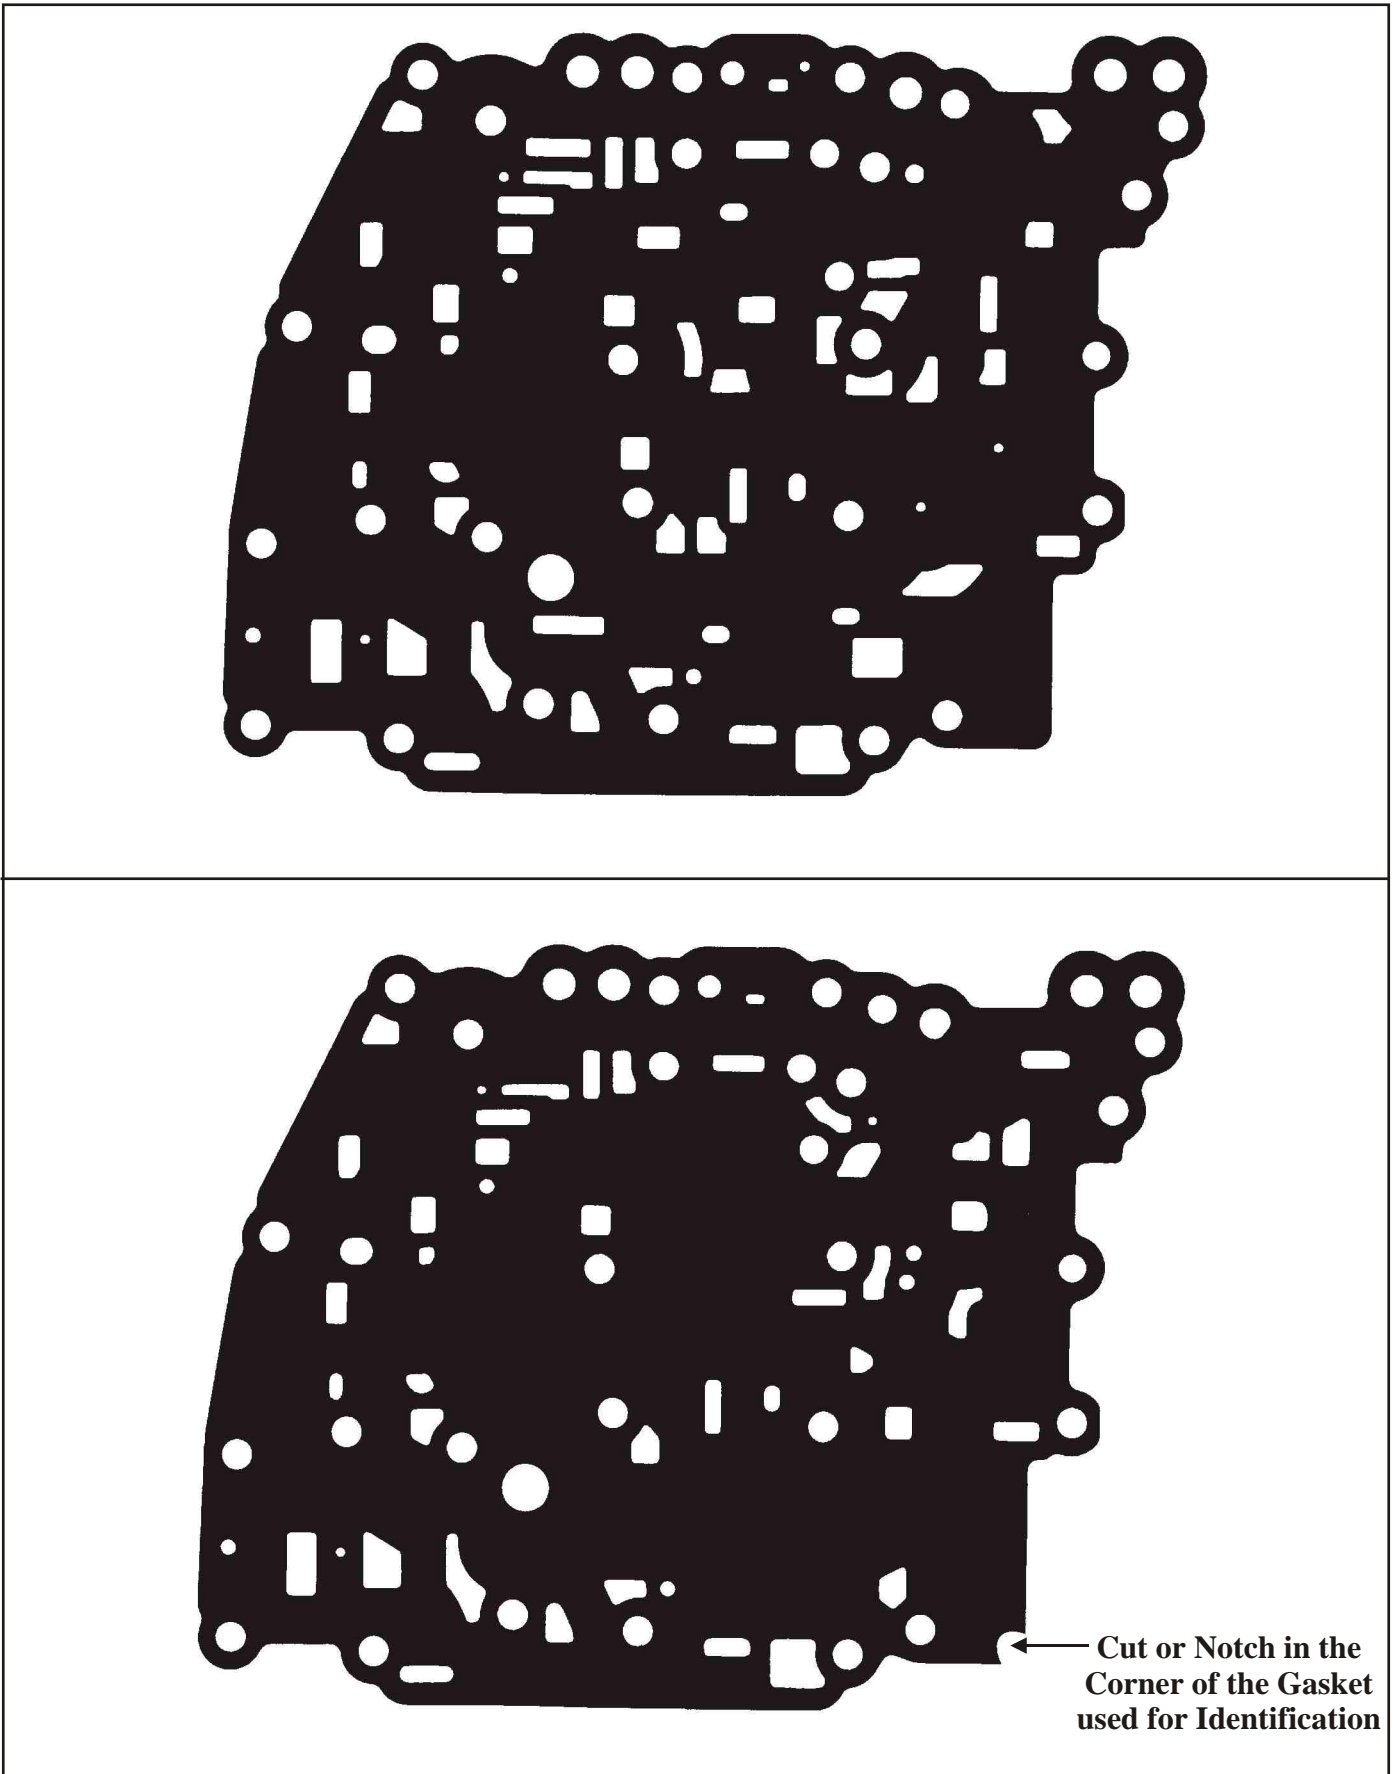

Figure 179
20. Install new and correct spacer plate gaskets (See Figure 179) onto the spacer plate.